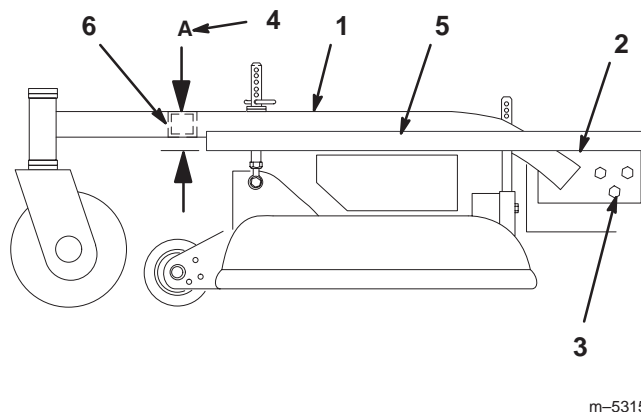

Figure 48
2. Place a long straight edge on top of the engine deck as shown in figure 48.
3. At the carrier frame cross tube, measure location A height (Fig. 48). This measurement must be 2–13/16 in. (71 mm), plus or minus a 1/4 in. (6 mm).
5. Loosen the carrier frame mounting bolts on both sides of the machine (Fig. 48).
6. Align the carrier frame and engine deck to match 2–13/16 in. (71 mm), plus or minus a 1/4 in. (6 mm) at location A (Fig. 48).